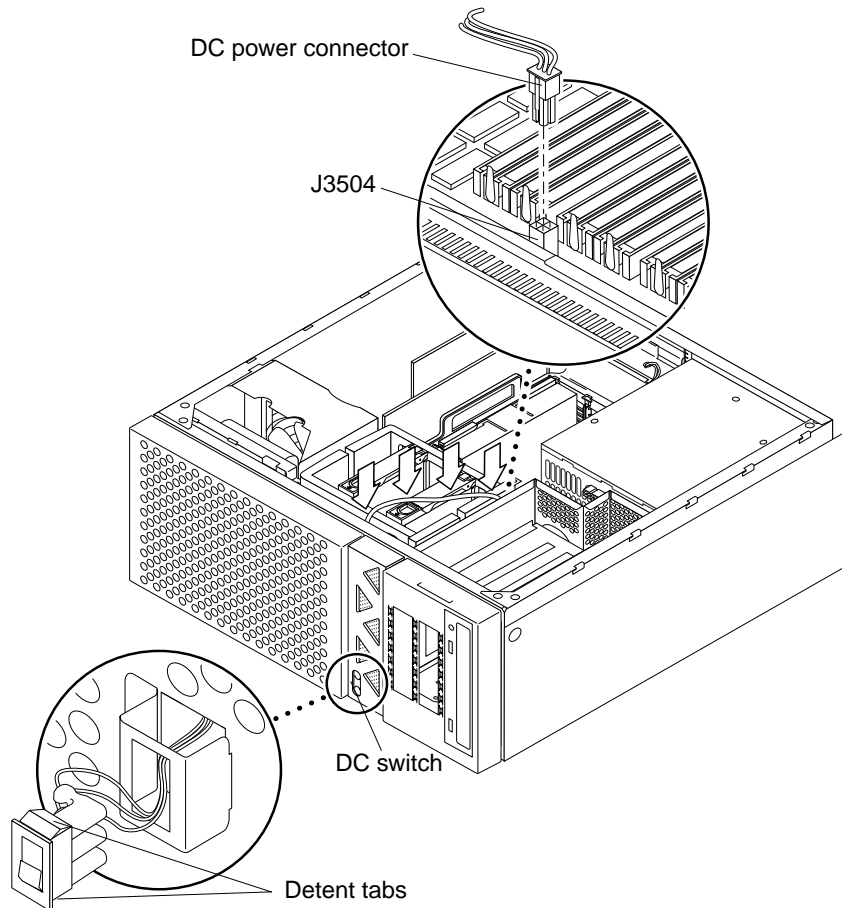

FIGURE 8-10 Removing and Replacing the DC Switch Assembly
8. Remove the DC switch assembly as follows (FIGURE 8-10):
1. **Replace the DC switch assembly as follows (FIGURE 8-10):**